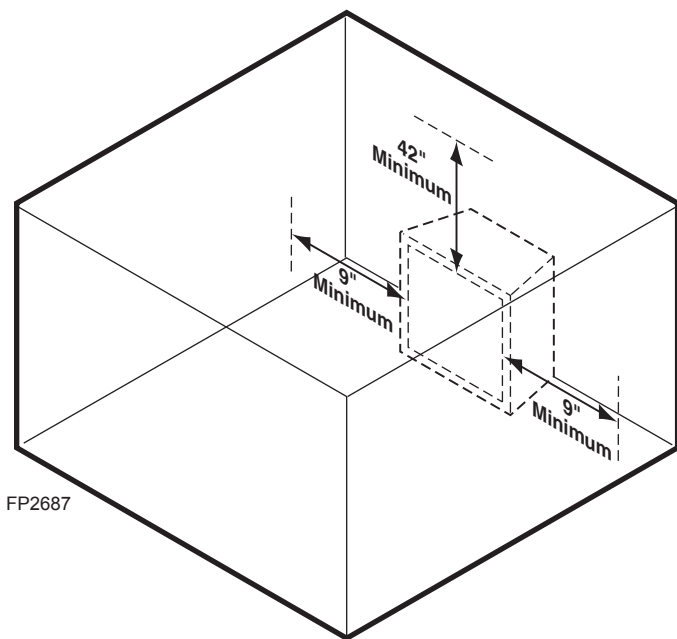

Figure 4 -
Ensure that minimum clearances shown in Figures 4 through 8 are maintained. Left and right clearances are determined when facing the front of the firebox.
- Sidewall clearances:** The clearance from the inside of the appliance to any combustible wall should not be less than 9". *Figure 4*
- Ceiling clearance:** The ceiling must be at least 42" from the top of the firebox opening. *Figure 4*